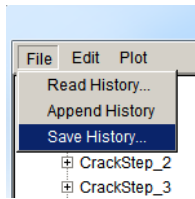

Figure 2.89 Create Growth History dialog File menu.
Using the **File** menu in the Create Growth (CG) History dialog, select **Save History**, Fig 2.89, and save the SIF history to a *.fcg* file, called *Ansys_Cube_sub_steps.fcg* here. Close the dialog using the **Cancel** button, and then close the model in FRANC3D using **File** → **Close**.